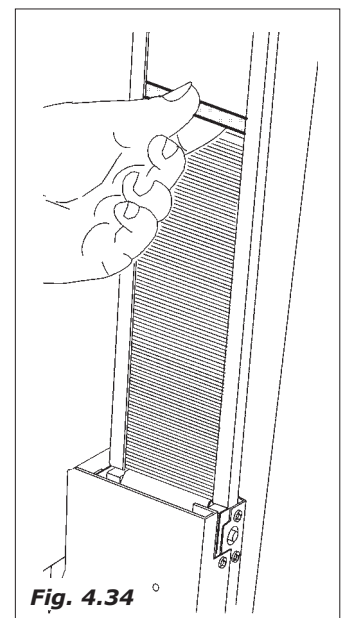

Fig. 4.34
- Check that the spoon are cut burr-free, that they are not bent and that they are all placed horizontally (Fig.4.34).